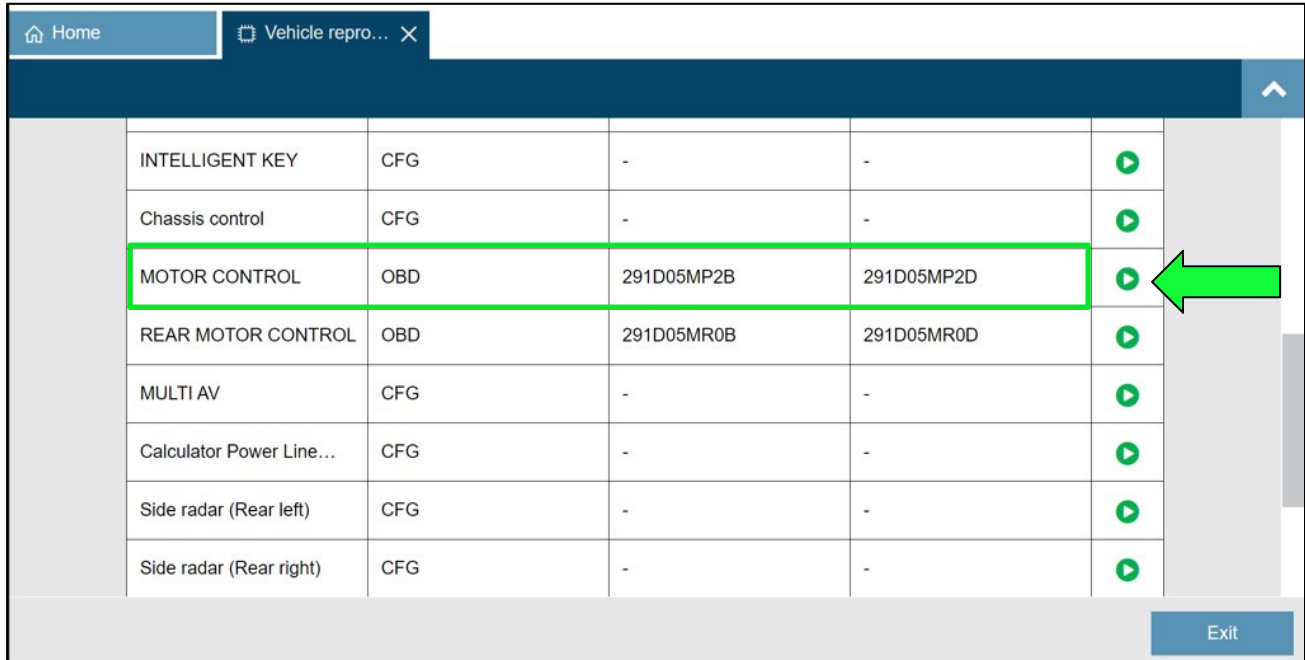

Figure 7
- Select the “play” icon for **MOTOR CONTROL**, as shown in Figure 7.